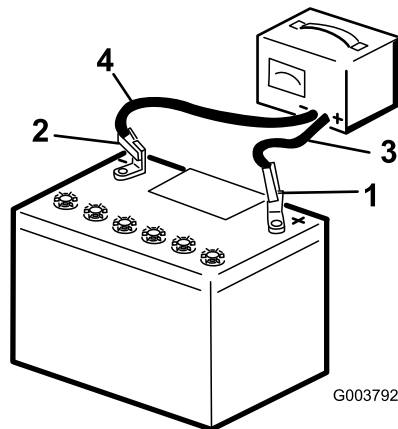

Figure 64
2. Charge the battery for 4 to 8 hours at a rate of 3 to 4 A (Figure 64). Do not overcharge the battery.
3. When the battery is fully charged, unplug the charger from the electrical outlet, then disconnect the charger leads from the battery posts (Figure 64).